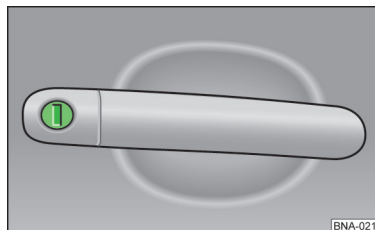

Fig. 71
- > Insert the key bit into the lock cylinder » fig. 71 and unlock or lock the vehicle.